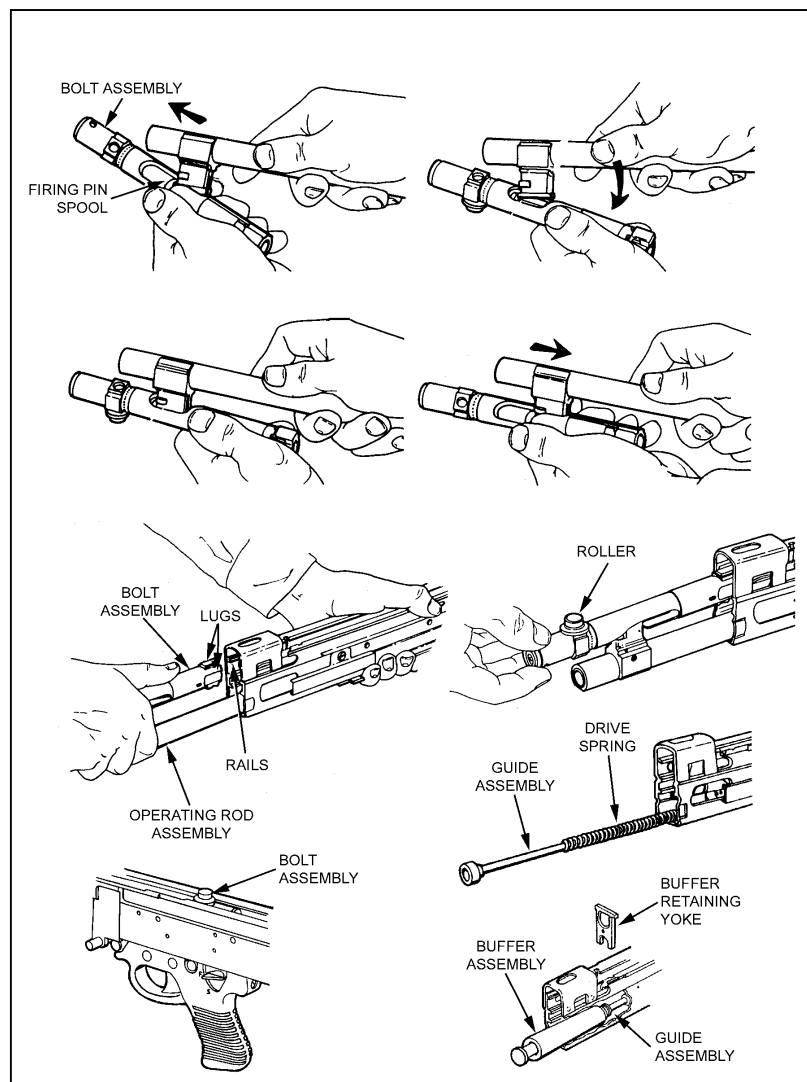

Figure 2-16. Replacing the bolt assembly, operating rod assembly, and buffer assembly.
e. **Replacing the Bolt Assembly, Operating Rod Assembly, and Buffer Assembly.** The gunner places the yoke of the operating rod assembly against the spool of the firing pin in the slot of the bolt assembly (Figure 2-16). Then, he pushes the spool forward. He seats the yoke between the spools of the firing pin and lets the yoke slide back in the bolt assembly.
(1) Slides the operating rod assembly with the bolt assembly into the weapon. Turns the bolt assembly so that the stripping lugs line up with the upper rails. Pushes in until the stripping lugs engage the rails.
(2) Turns the roller straight up and pushes the bolt assembly and operating rod assembly as a unit into the weapon.
(3) Pulls and holds the trigger while pushing the bolt assembly into the receiver until it locks in place.
(4) Installs the drive spring and guide assembly in the rear of the receiver.
(5) Inserts the buffer assembly against the end of the guide assembly and pushes until the groove on the buffer assembly lines up with the slot for buffer retaining yoke. Inserts the buffer retaining yoke.